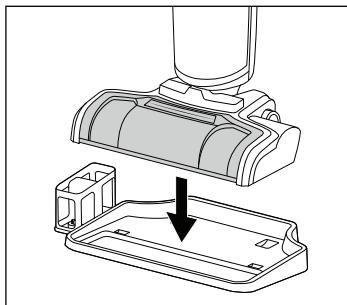

Fig. 45
- ♦ Carry the appliance by the carrying handle **⑮** only.
- ♦ For storage, place the appliance on the storage tray **④** of the parking and cleaning station (see fig. 45).